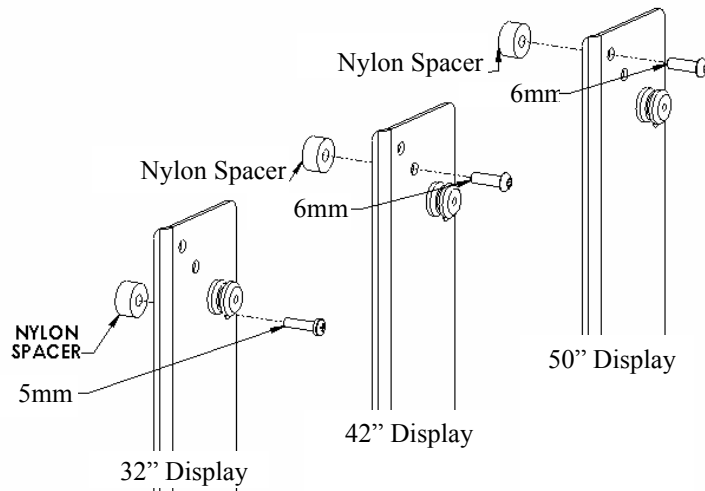

Figure 4. Bracket Hole Location
3. Place nylon spacers over the mounting holes on the back of the screen (see Figure 4).